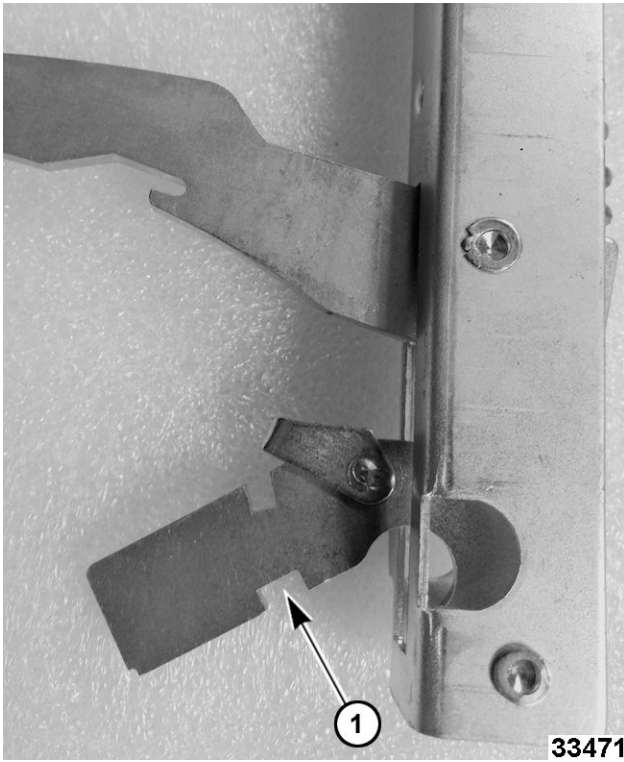

Fig. 35
3. Lift up on door, while holding both sides, to disengage locking lever notch (1, Fig. 35) on both sides.